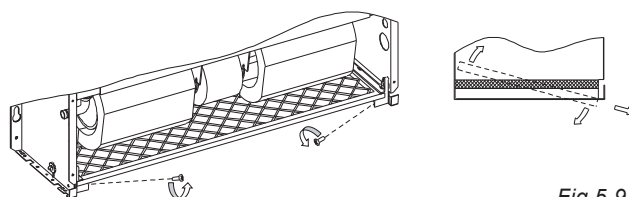

Fig. 5-9
- 1) Upright row (non-directional) one side of the inhalation grating, and putdown the other side, and then slide follow the arrow's direction refers to Fig.5-9